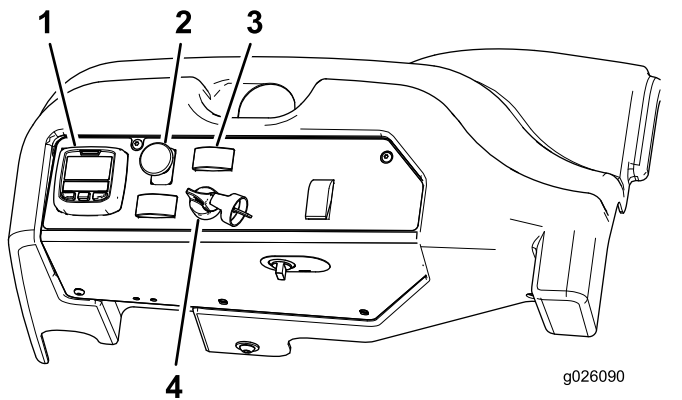

Figure 22
5. Move the power-takeoff (PTO) switch to the OFF position (Figure 22).